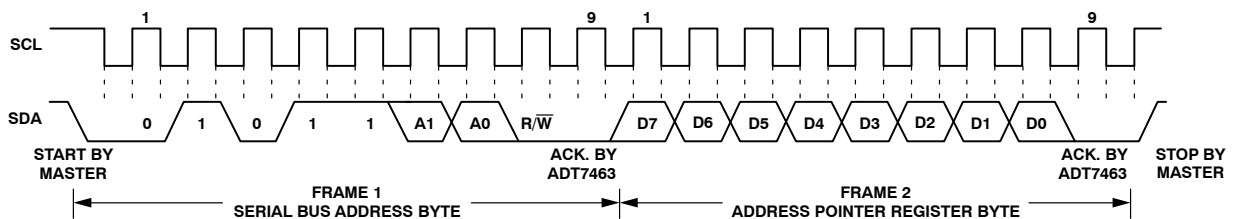
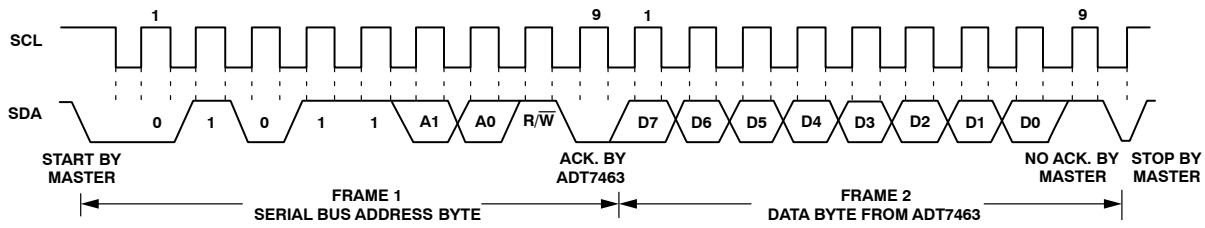

Figure 18. Writing to the Address Pointer Register Only
Figure 19. Reading Data from a Previously Selected Register
1. If the ADT7463's address pointer register value is unknown or not the desired value, it is first necessary to set it to the correct value before data can be read from the desired data register. This is done by performing a write to the ADT7463 as before, however, only the data byte is sent and this contains the register address. This is shown in Figure 18. A read operation is then performed consisting of the serial bus address, R/W bit set to 1, followed by the data byte read from the data register. This is shown in Figure 19.
2. If the address pointer register is already at the desired address, data can be read from the corresponding data register without first writing to the address pointer register, so Figure 18 can be omitted.